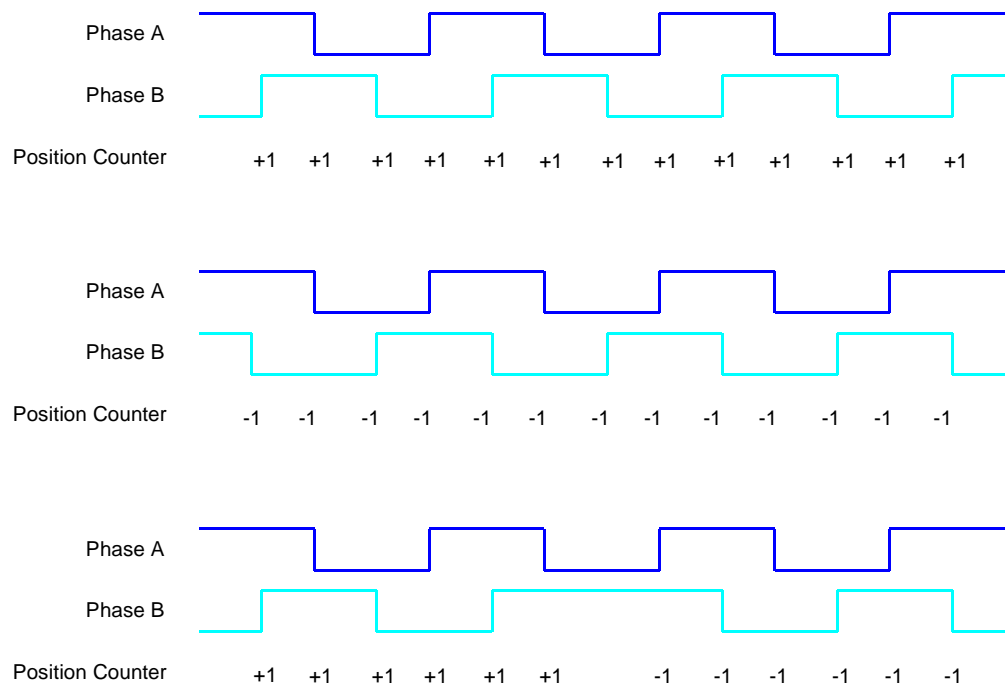

Figure 2. 32-bit Linear Quadrature Decoder
The 32LQD operates on two channels and processes the incoming out-of-phase encoder signal. As a result of this processing, the bidirectional 32-bit Position Counter (PC) gets a value that reflects the position of a motion system. The PC value is incremented or decremented by 1 on each transition of Phase A or Phase B input channels – see Figure 2. On initialization, the PC is set to a 32-bit PC_init value entered by the CPU.